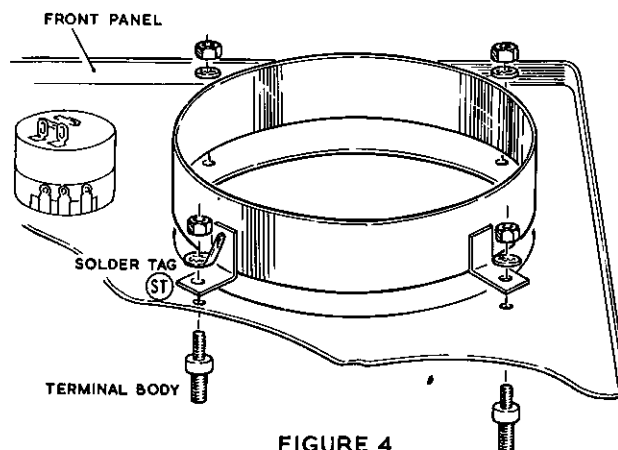

FIGURE 4
- () Mount the tube support ring on the front panel as shown in Figure 4. Fit a 4BA solder tag at ST and secure using four terminal bodies, three 4BA lock-washers and four 4BA nuts.